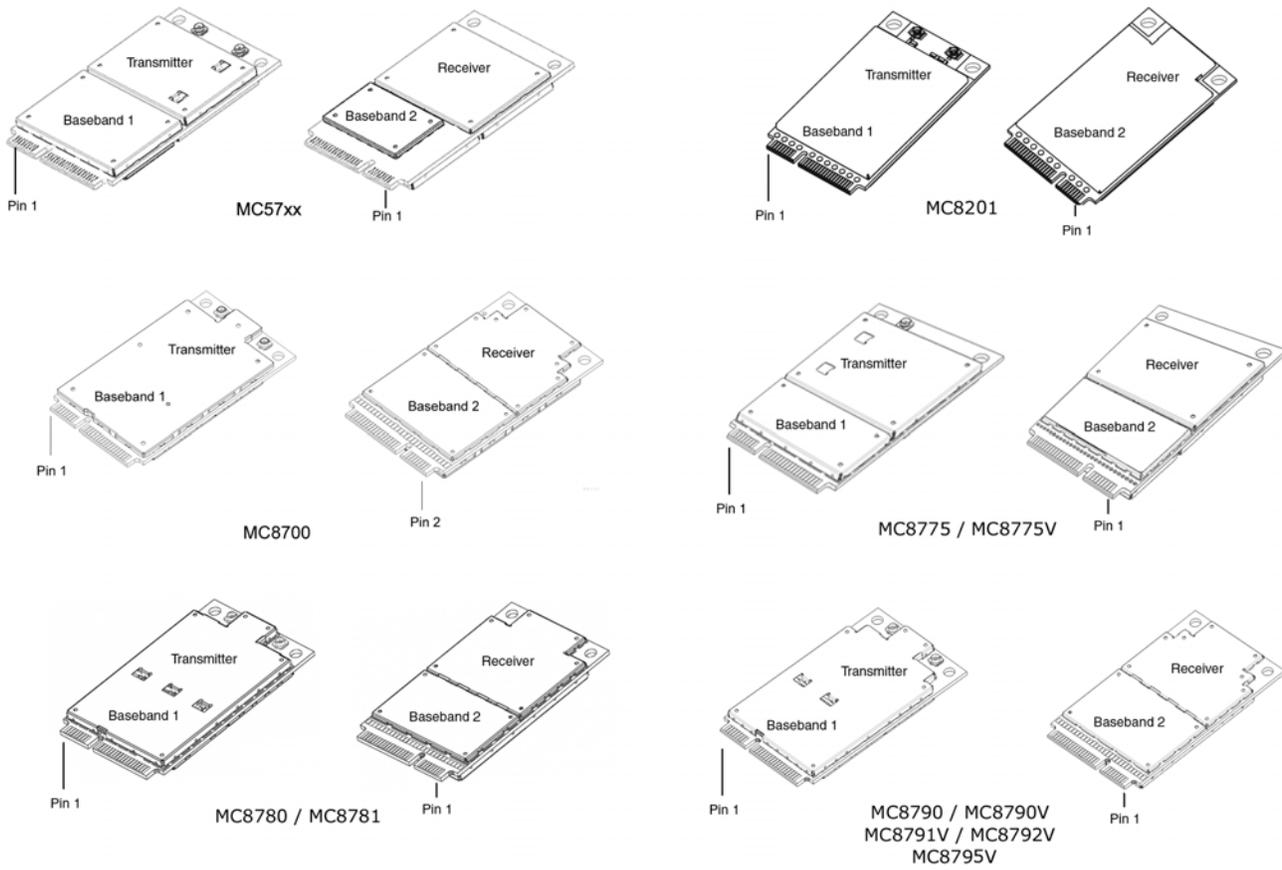

Figure 6-1: Shield locations
Specific areas requiring heat dissipation include the following four shield cases indicated in Figure 6-1 on page 66:
- Monitor temperature at all shield locations. Attach thermocouples to each shield indicated in Figure 6-1 on page 66.